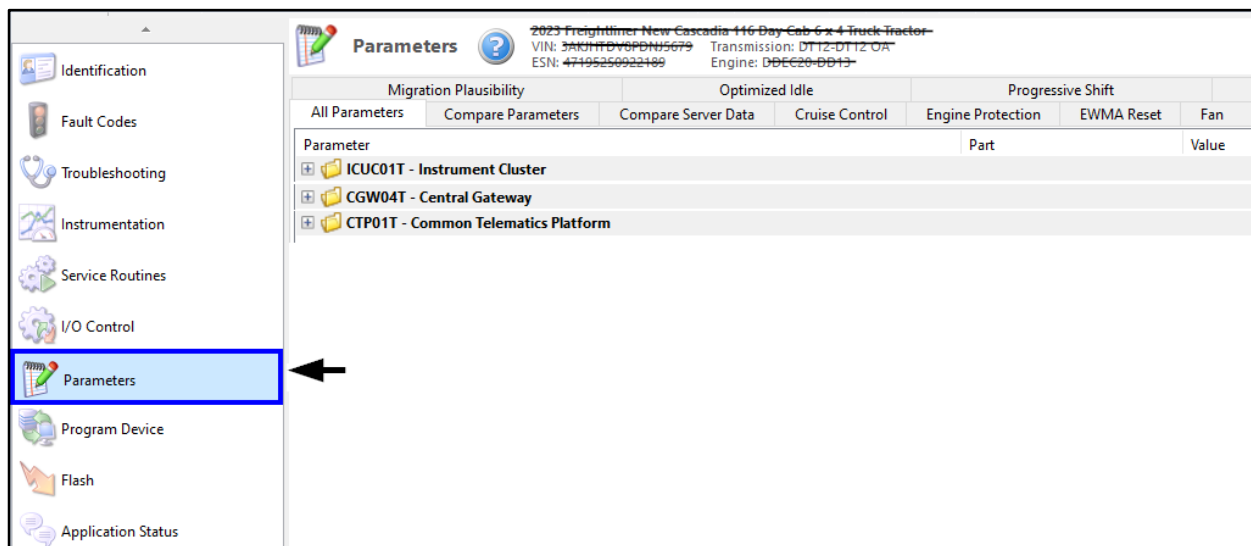
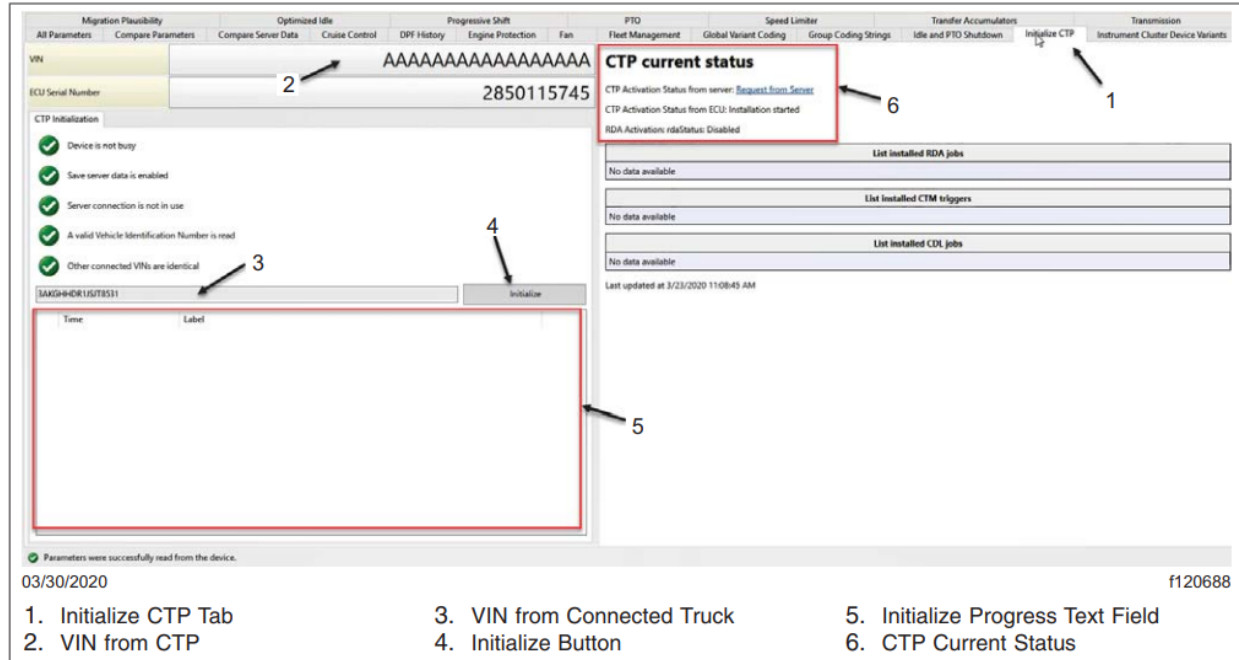

Fig 15 Reading Parameters
Fig. 16, 'Initialize CTP' Tab
25. Navigate to 'Parameters,' and allow the parameters to be read. See Fig. 15. Select the 'Initialize CTP' tab. See Fig. 16.
26. Under 'Parameters' icon and 'Initialize CTP' tab, verify the VIN from CTP reads the default AAAAAAAAAAAAAAAAAA or the exact VIN from the connected truck. See Fig. 16. Otherwise, the CTP may need to be replaced with a like part number. The initialization can only occur with a CTP with the exact VIN or default AAAAAAAAAAAAAAAAAA.
27. Run the initialization procedure by clicking on the 'Initialize' button. See reference #4 in Fig. 16.